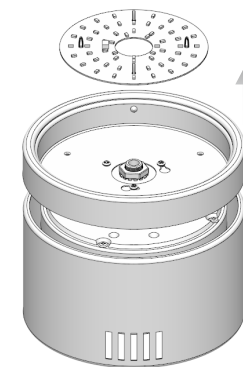

Fig. 1.1
- 1.1 Take the motor assembly out of the box. Then, detach the LED light kit from the light kit pan directly, as it is held by magnets as shown in Fig. 1.1.